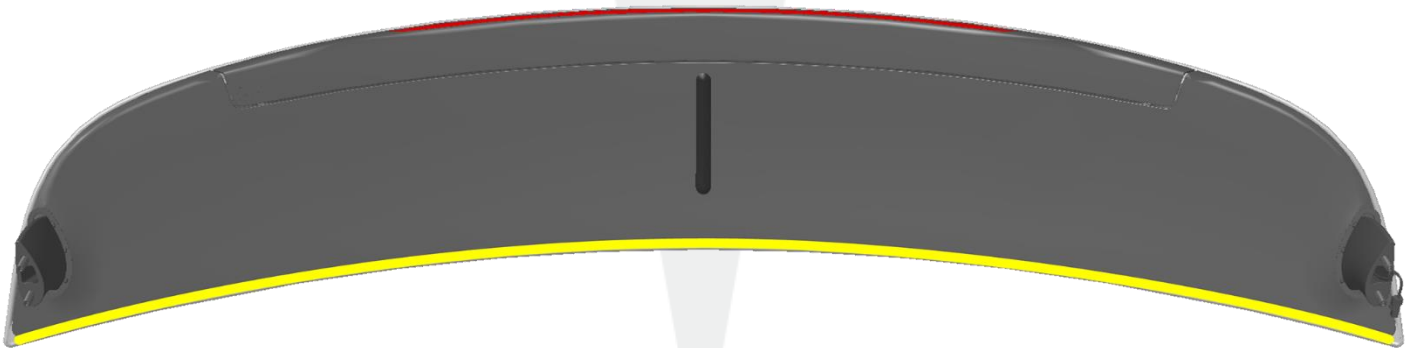

Figure 2 (Spoiler leading edge highlighted)
5. Use an alcohol wipe to clean the leading edge of the spoiler (Figure 2). Allow the area to dry before continuing.